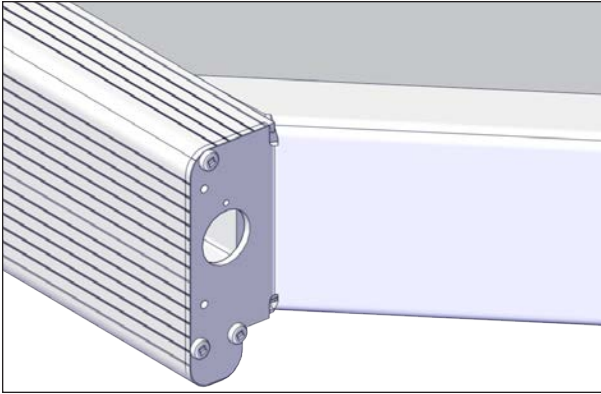

FIGURE 59: PUSH WIRE INSIDE THE C-CHANNEL
- Push the wire and the Griplock in the C-channel and repeat this step on the 3 other cover corners, see Figure 59.